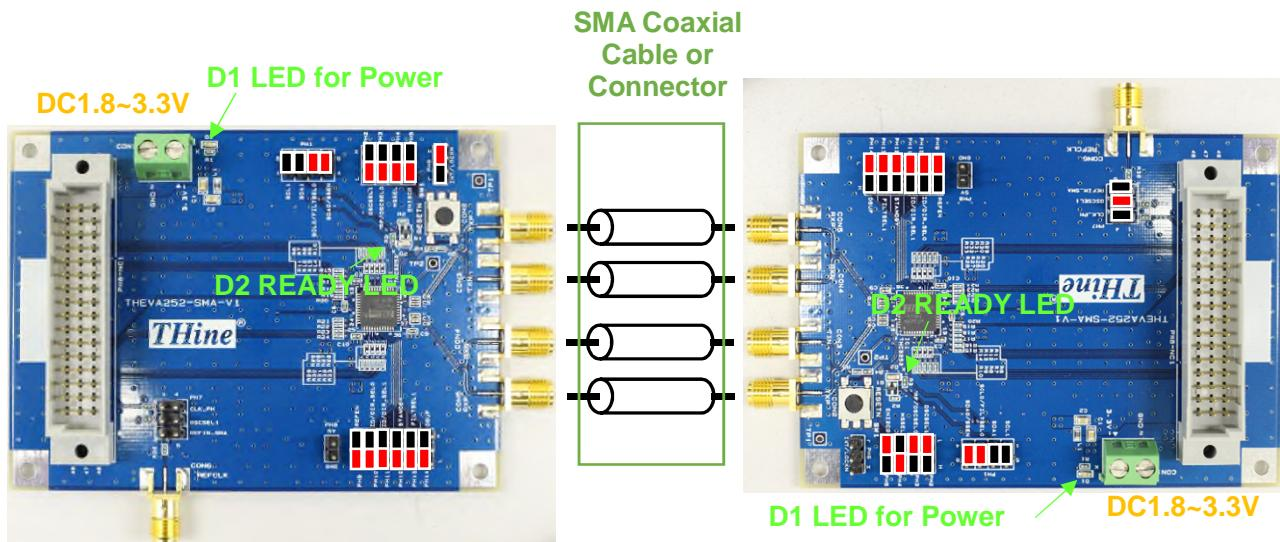

Figure 3 THEVA252-SMA-V1 Quick start pin setting
1.3.1 Connect the master and slave boards with jumper pin settings as shown in Figure 3 using SMA coaxial cables.